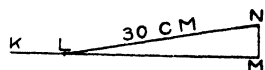

Fig. 13a.
11. The triangle LMN (Fig. 13a) represents the section of two planes. The end L is free to move on the line KM , but N is connected with M by means of a screw that lifts N vertically. In one complete turn of the screw N is lifted through .0403 centimeters. Through what angle will LN be lifted by .113 of a turn.